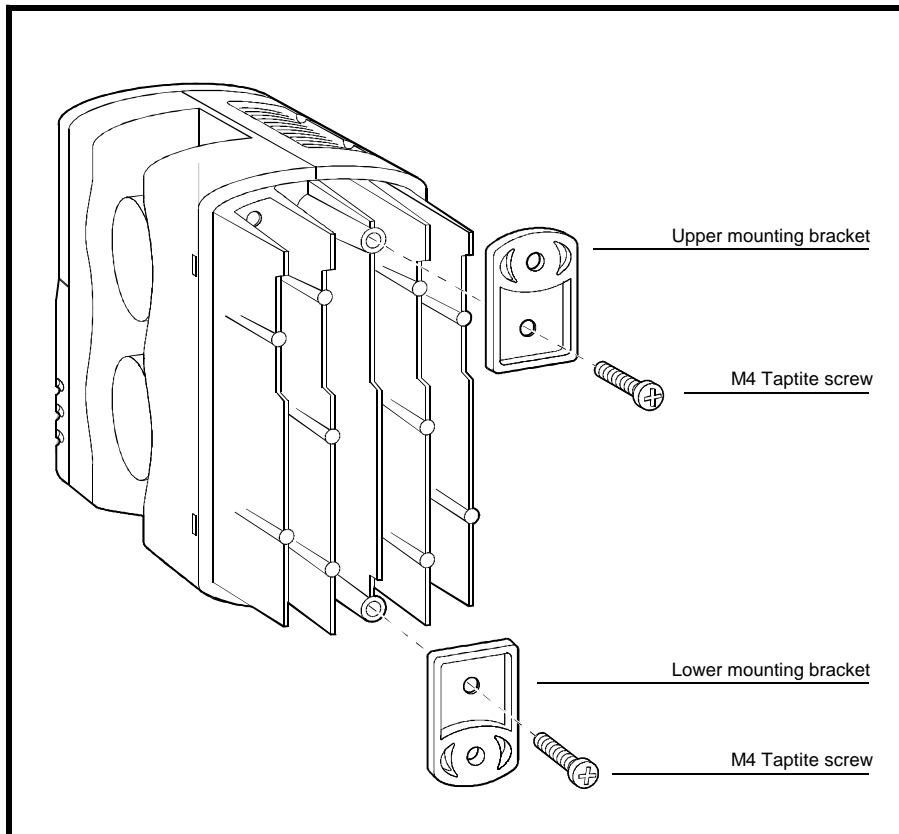

Fig. 4.9 Fitting the brackets to the heatsink in preparation for panel mounting
1. Slide the 2 Mounting Brackets into the recesses between the fins at the top and bottom of the heatsink with the orientation as shown in the Fig. 4.9 above.